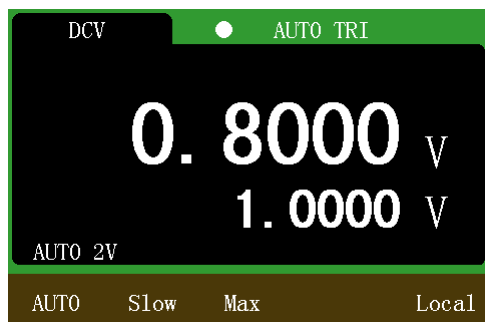

Figure 5-1 Maximum measurement interface
1. Press to record the maximum value of the measurement, as shown in Figure 5-1. Press again to exit the maximum value measurement function.